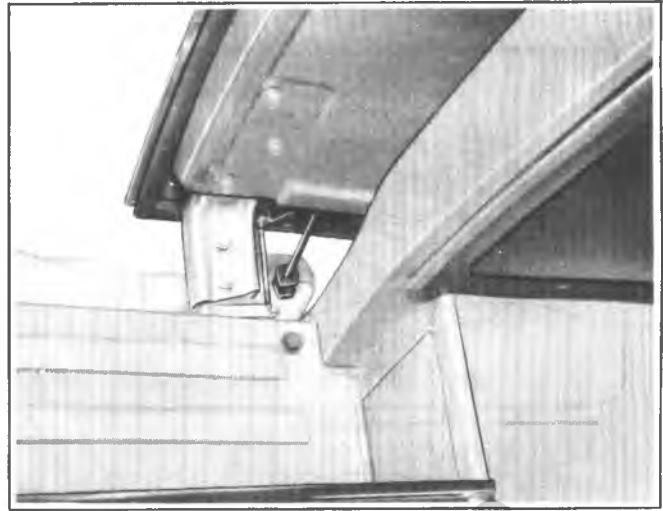

Fig. 2D-119--Hold-Open Catch
2. Center the wedge assembly on the door wedge, as shown in figure 2D-120, and scribe a line around the wedge assembly.